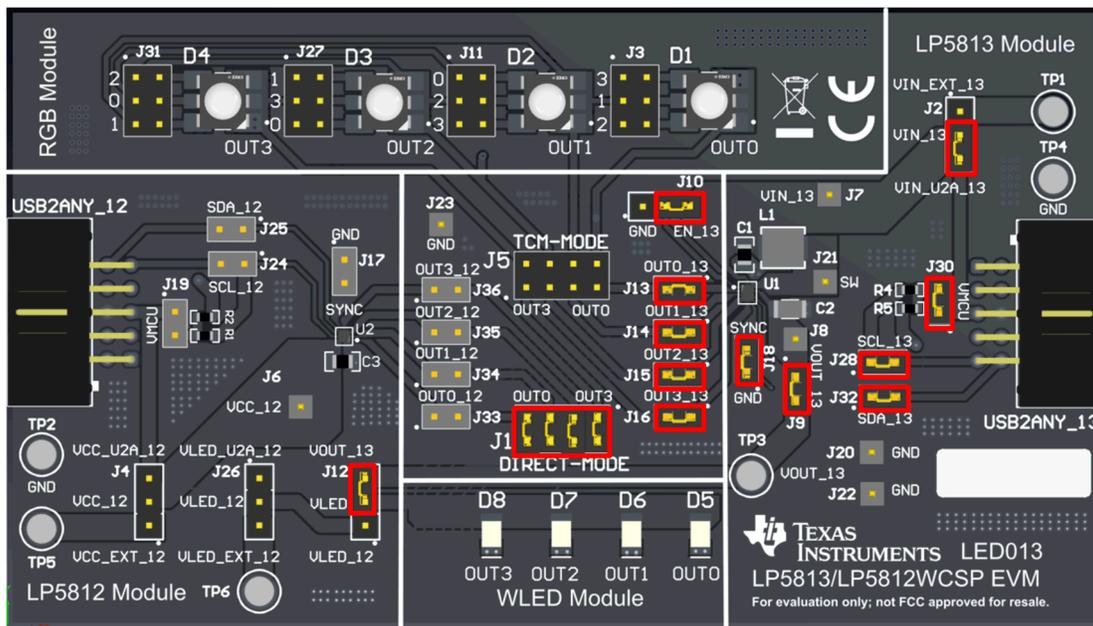

Figure 3-4. Direct mode and Enable Boost without External Power supply
3. After downloading, follow the steps in Figure 3-4 to finish installation.